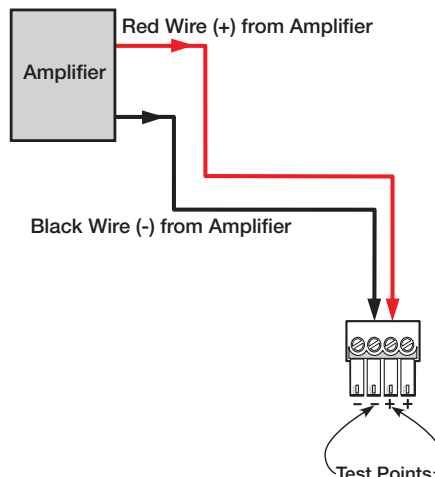

Figure 38. Signal Test Points — Loop-through Configuration
- The source signal can be tested by connecting to the inner + (IN) and – (IN) terminals of the captive screw connector, as shown in figure 38.